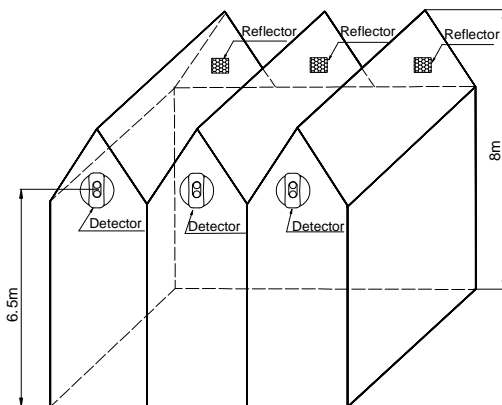

Fig. 6
(4) For gable structure with space height about 8m, the detector and reflector should be mounted on the two facing walls 1.5m from the gabled girder, as shown in Fig. 6.